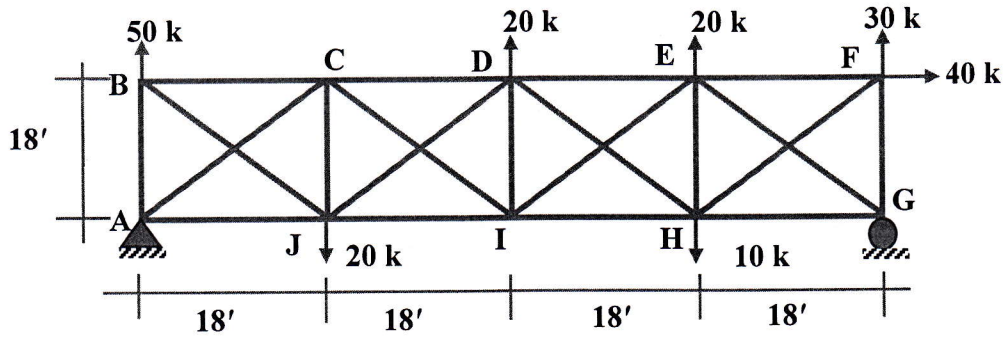

Figure 3
- [3] Calculate the forces in members **BC**, **AJ** and **DH** of the statically indeterminate truss shown in Figure 3. Consider that the Diagonal members can take tension only.